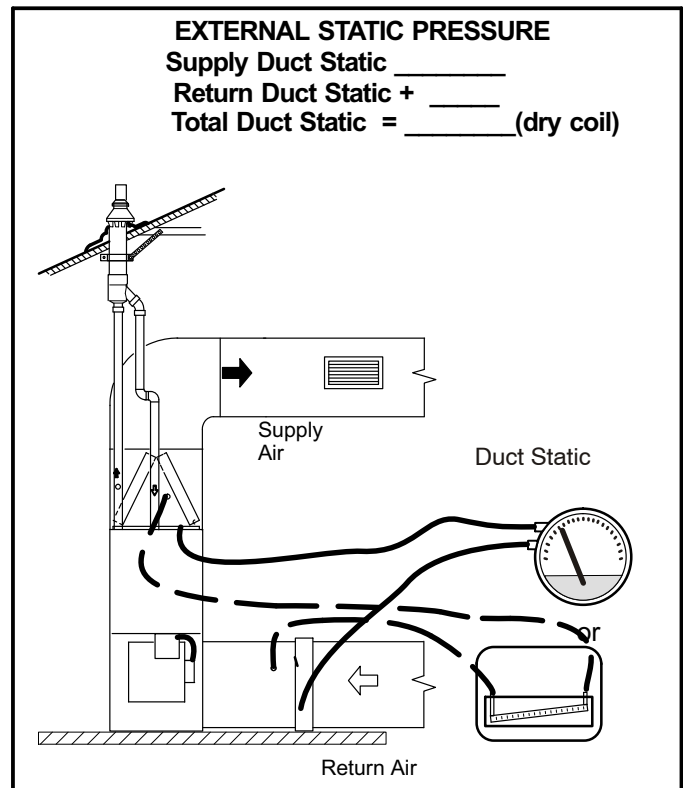

FIGURE 56
- 1 - Tap locations shown in figure 56.